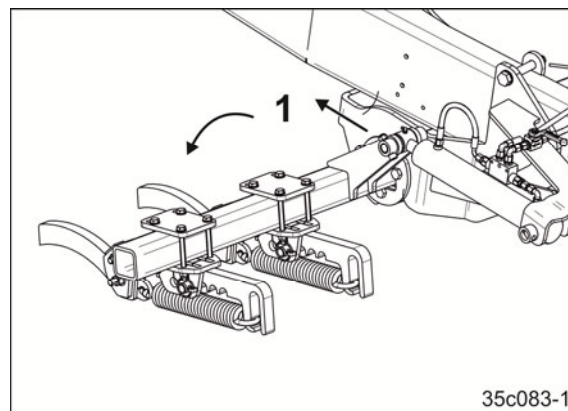

Fig. 224
1. Move the wheel mark eradicators into working position (Fig. 224/1):
1. Move the tractor wheel mark eradicators into transport position (Fig. 224/1):